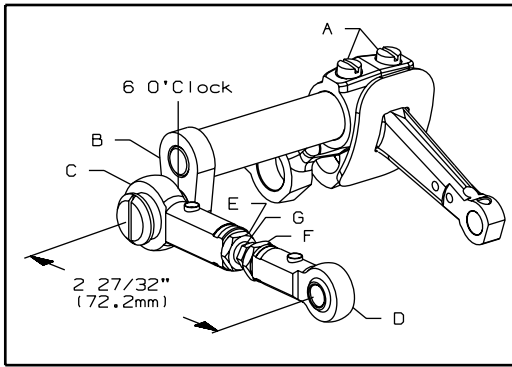

FIG. 28
At this time the knife drive lever should be in the 6 o'clock position. If adjustment is necessary, loosen screws (A, Fig. 28) in the needle lever and reposition knife drive lever (B) to the 6 o'clock position. Tighten screws (A). The dimension between the centerline of right and left knife drive connection ball joints (C and D) must be  $2 \frac{27}{32}$ " (72.2mm). Loosen left hand thread nut (E), right hand thread nut (F) and turn connecting rod (G) until dimension is achieved. Tighten nuts (E and F).